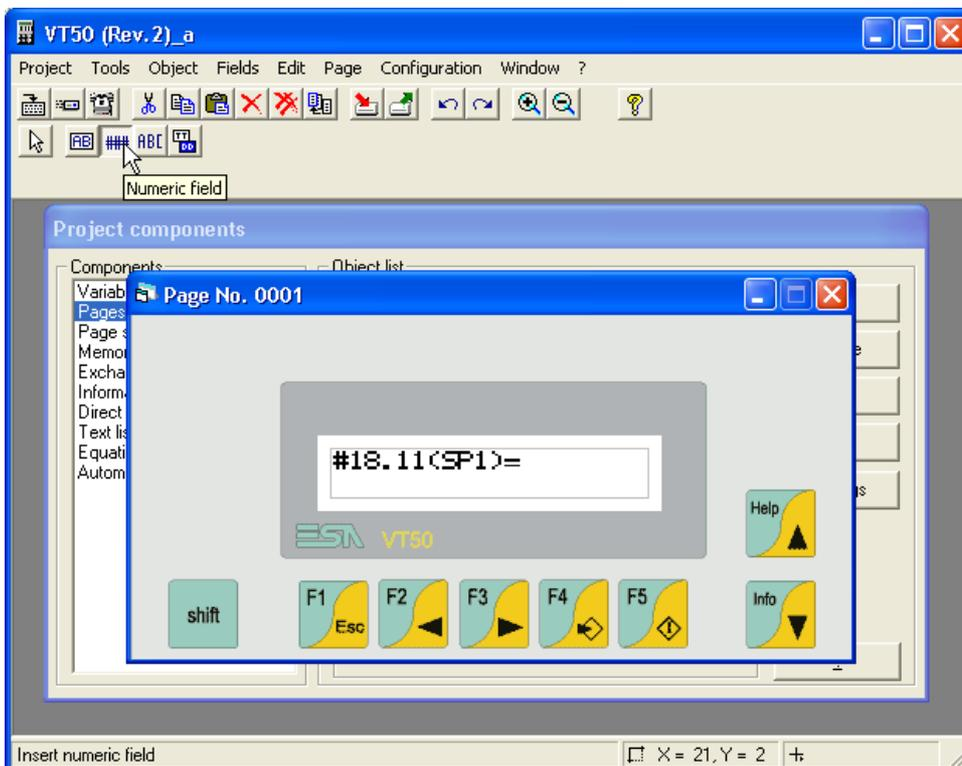

Fig. 20.
3.19 Click on the white zone within the Page No. 0001 and introduce the information as shown in Fig. 20. Then click on the *Numeric field* icon from the main menu.